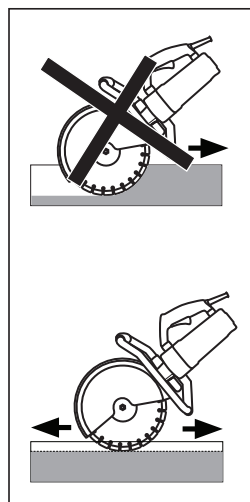

FIG. 8
- Gently feed the blade into the workpiece. Cutting performance is best when you cut straight ahead along the pre-marked cutting line. Do not cut a depth of greater than 50mm (2"). **(FIG. 8)** If a cut of greater than 50 mm (2") is required make several passes.